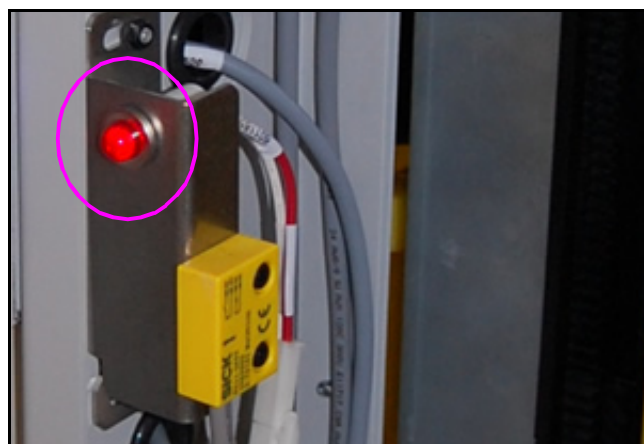

Figure 2-20: Interlock LED
- a. The interlock LED is on to indicate interlock is open (see Figure 2-20).